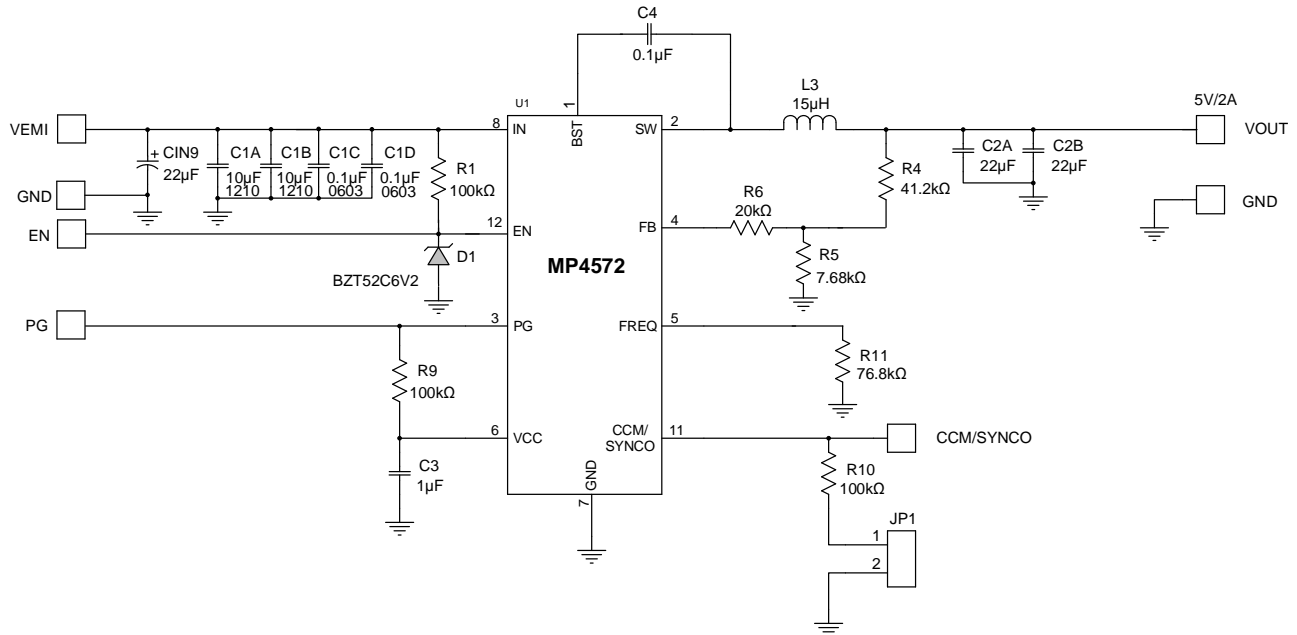

Figure 8: Typical Application Circuit
9) The recommended PCB layout is based on the circuit in Figure 8.